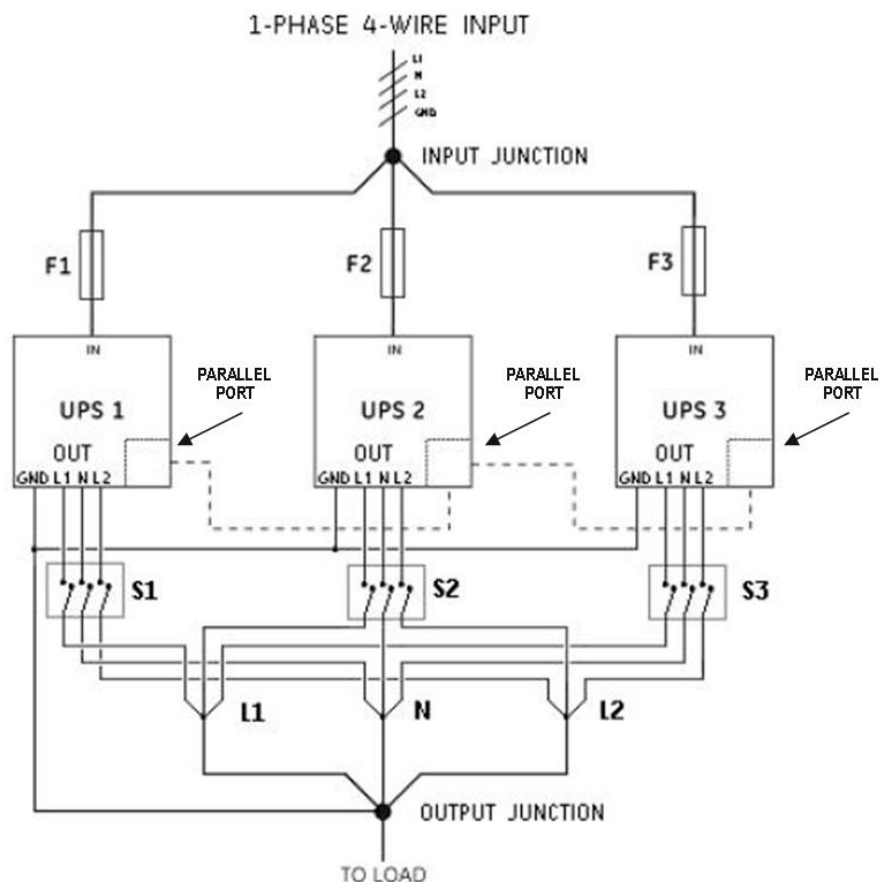

FIG 59 – 10KVA UPS PARALLEL SYSTEM DIAGRAM EXAMPLE
2. All outputs must be connected together, supplying the load. It is advised to install breakers (S 1,2,3 FIG 59) in the output wiring, in order to be able to isolate a unit from the remaining system for service and maintenance purposes. Optional Xtreme Power paralleling / bypass panels are available to accomplish this (not shown). Please contact Xtreme Power Sales for additional information.
4. The length of all input cables from the input junction (FIG 59) to the UPS inputs should be equal. The same applies to the cables from the outputs to the output junction (FIG 59). The minimum length of the input as well as the output cables is 3 meters.